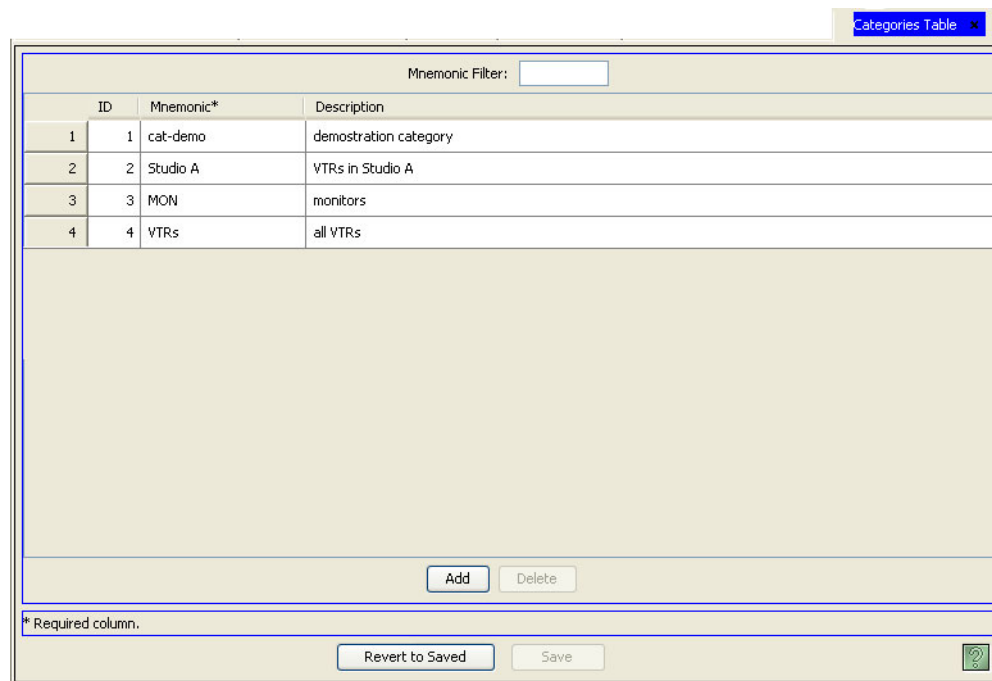

Figure 10-16. Categories Tables
- 2 From the Navigation area, select the 'Views' pane and then 'Categories'. The 'Categories' table appears, as shown in Figure 10-16.